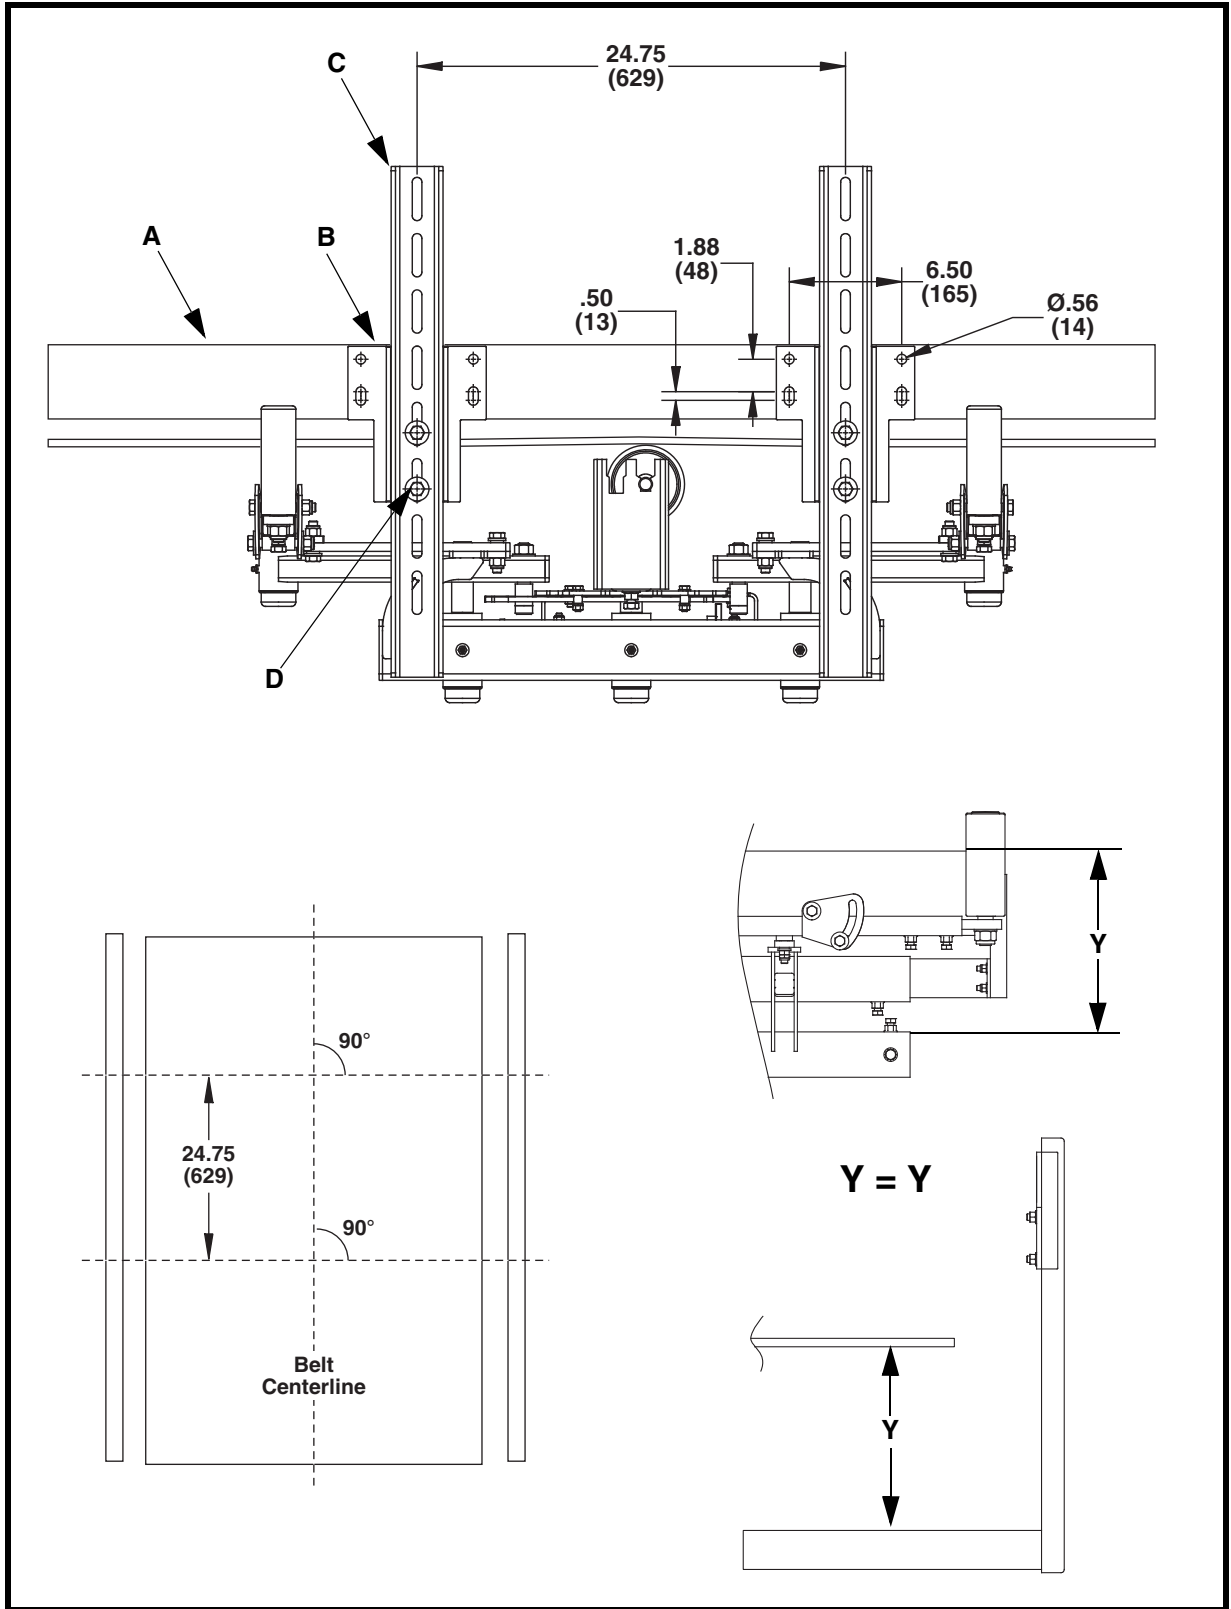

Figure 1. Mounting Dimensions–Martin® Tracker™ Reversing (Lower Unit)
8. Mark location of mounting brackets (B) on stringers (A). See Figure 1 or 2 for mounting dimensions. Make sure telescoping tube mounting holes are accessible from both sides.
10. Mount telescoping tubes (C) on farside stringer using cap screws, flat washers, compression washers, and nuts (D).
12. Slide operator side telescoping tubes into Martin[®] Tracker[™] Reversing assembly and fasten to mounting brackets using cap screws, flat washers, compression washers, and nuts (D).